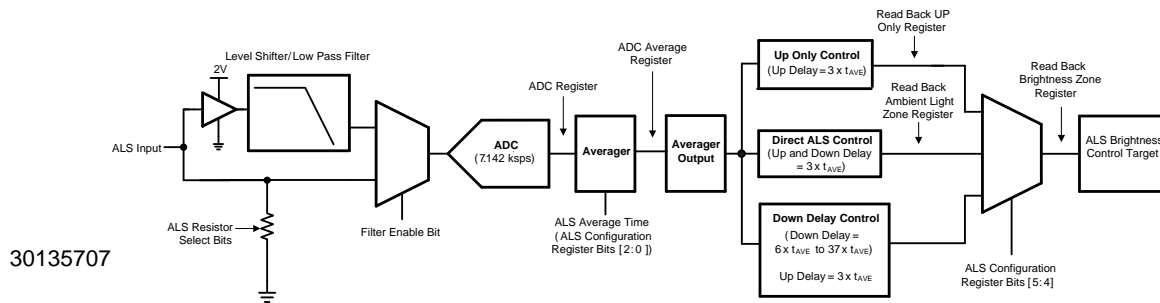
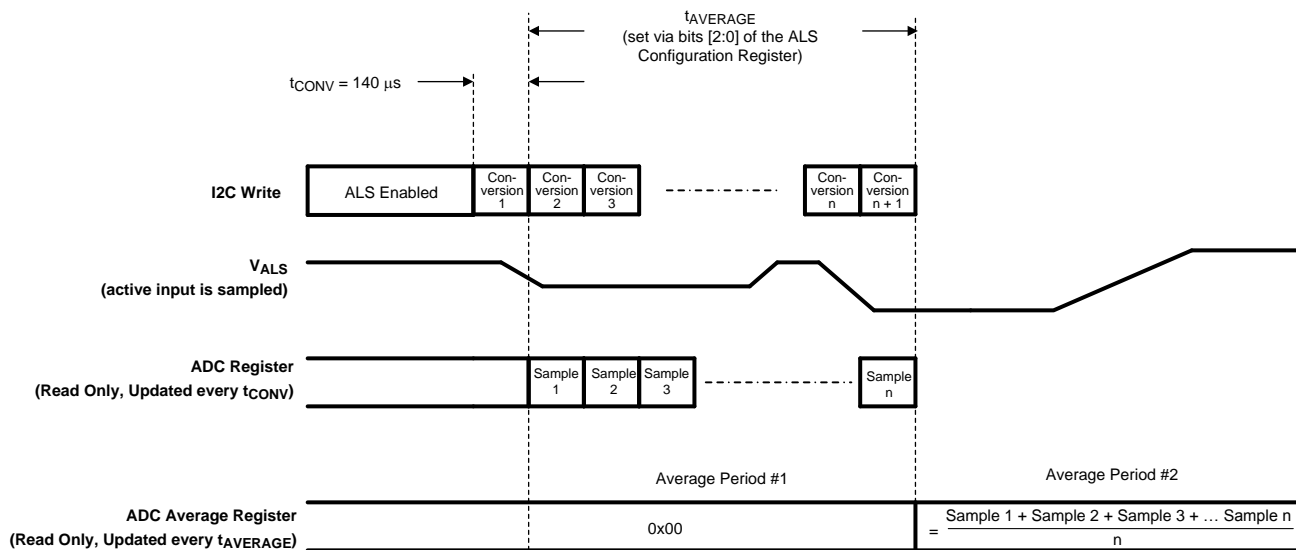

Figure 45. Ambient Light Sensing Block Diagram
Figure 46. ADC Timing
Figure 45 shows the functional block diagram of the LM3533's ambient light sensor (ALS) interface.
The LM3533 digitizes the ALS voltage using an internal 8-bit ADC. The ADC is active as long as the ALS enable bit is set. Once set, the ADC begins sampling and converting the voltage at the ALS input at 7.142kps. The ADC output can be read back via the ADC register (address 0x37). With the ALS enable bit set, the ADC register is updated every 140µs. Figure 46 details the timing of the ADC.
Once digitized the output of the ADC is sent into the ALS averager. The averager will compute the average of the number of samples taken over the programmed average period. The ALS average times are set via bits [5:3] in the ALS Configuration Register. The output of the ALS average can be read back via the ADC Average register (address 0x38). With the ALS Enable bit set, the ADC Average register is updated after each average period (see Figure 46). After every average period the Averager Output stores the information for which brightness zone the ALS input voltage resides in (see Figure 45).
5. The Averager Output (see Figure 45) contains the zone that is determined from the most recent full average period.